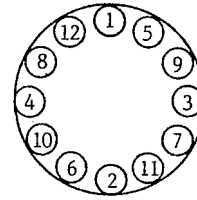

Figure 4
- 2.2.1 With the brake laying flat on the mounting flange (1), remove the 12 lockouts (9) and washers (44), alternating from locknut to locknut, and in increments of 1/2 of the exposed stud length. See **Figure 4** for proper sequence.